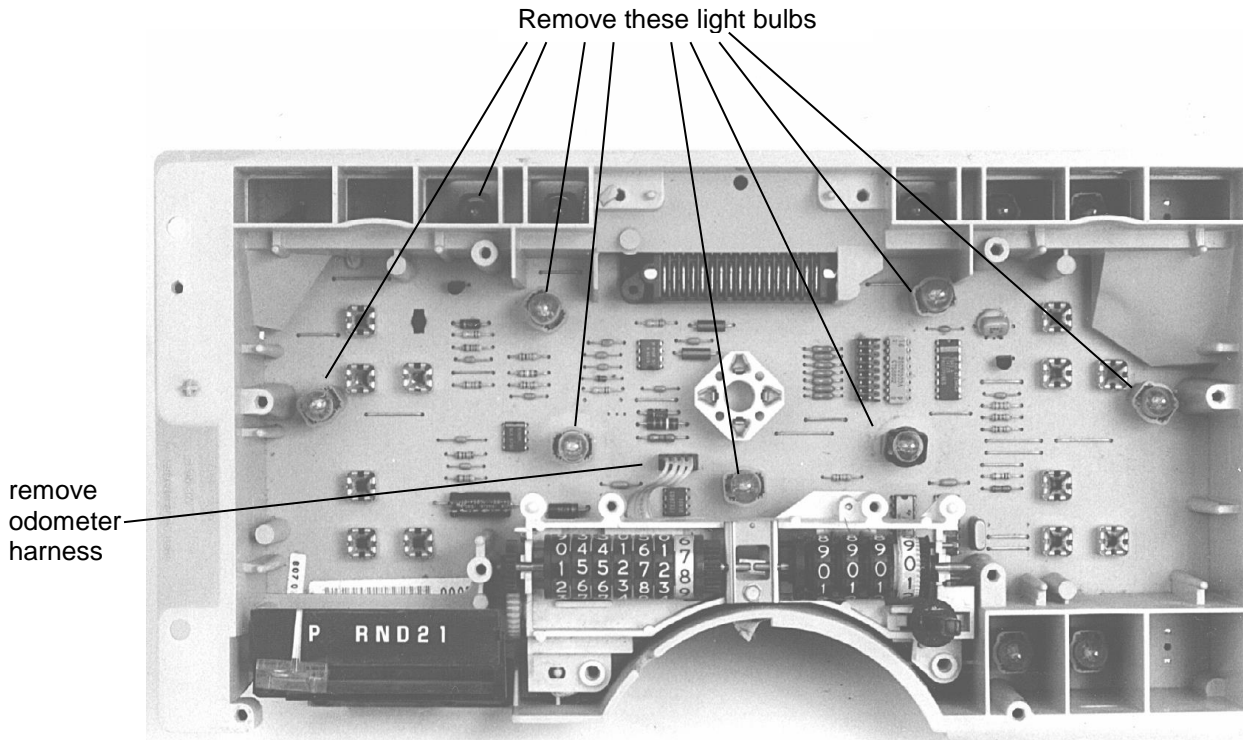

Figure 3
Remove the two light tubes. Unplug the 4-wire odometer harness and remove the odometer/trip mileage cluster. Remove the eight (8) bulbs pointed to in figure 3. The bulbs used in several of the original indicators will be left in. Removal of the 'check gauges' light may require the back panel to be removed from the plastic housing.